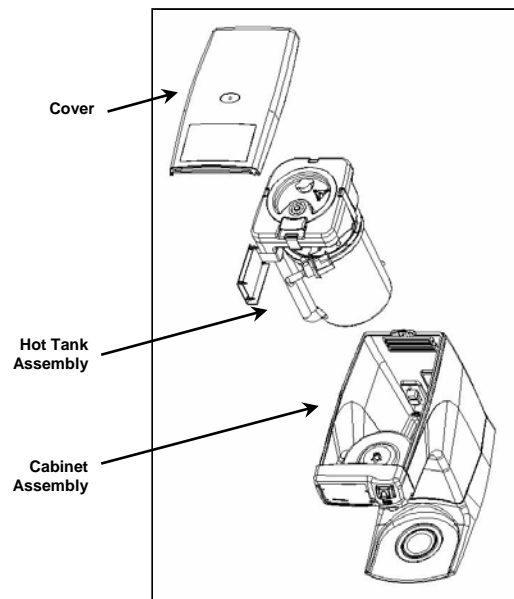

Figure 7
14. Remove hot tank assembly from cabinet by lifting from the upper plastic reservoir (see figure 7).